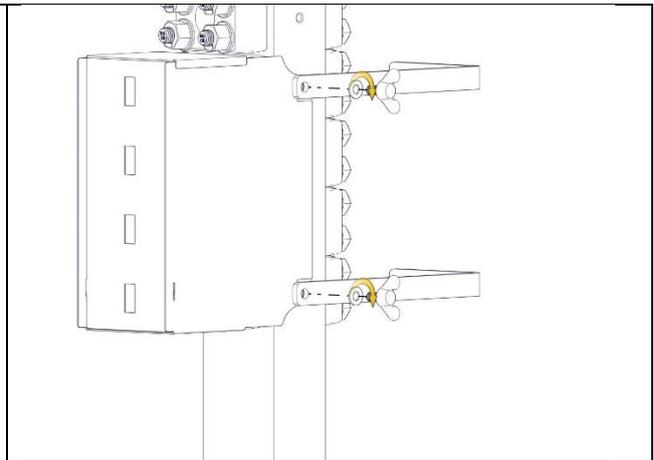

Fig. 2
Now mount the retaining bracket (pos. 5) on the opposite side by screwing the wing screws (pos. 4) through the holes of the retaining bracket and the glare box into the threaded hole in the display body. Again, place the washers (pos. 3) underneath. (Fig. 2)